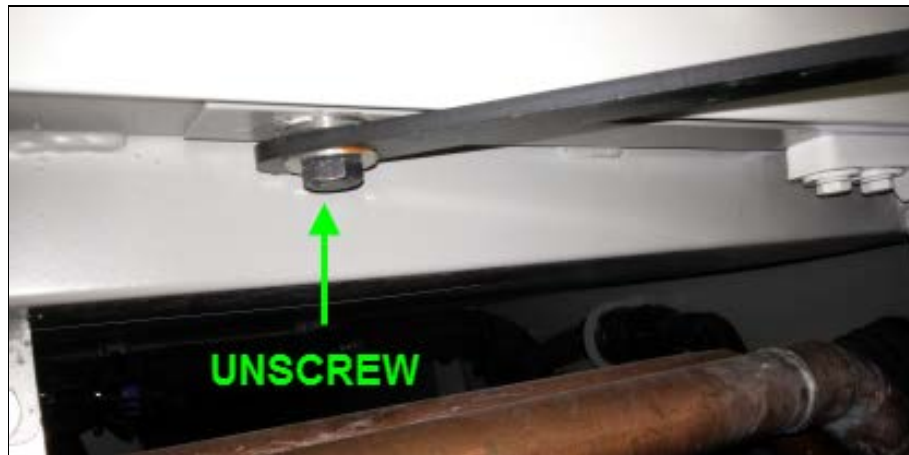

FIG.21 SUPPORT ARM REMOVAL
- 1) Remove the door support arm (unscrew from vehicle structure side) and move the arm out of the way (Fig.21).